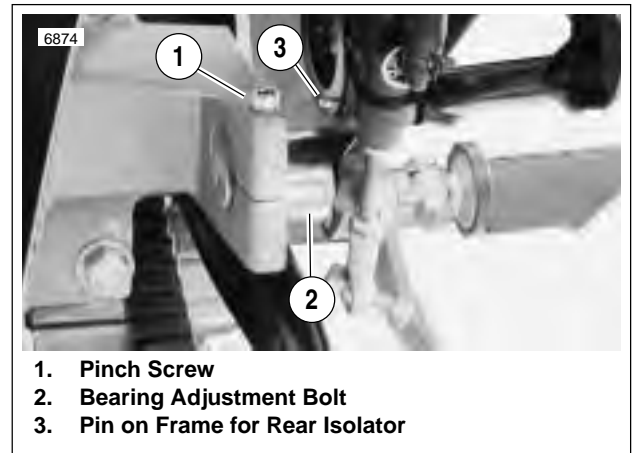

**Figure 2-62. Scissors Jack**
12. See Figure 2-62. Place a jack under the crankcase.